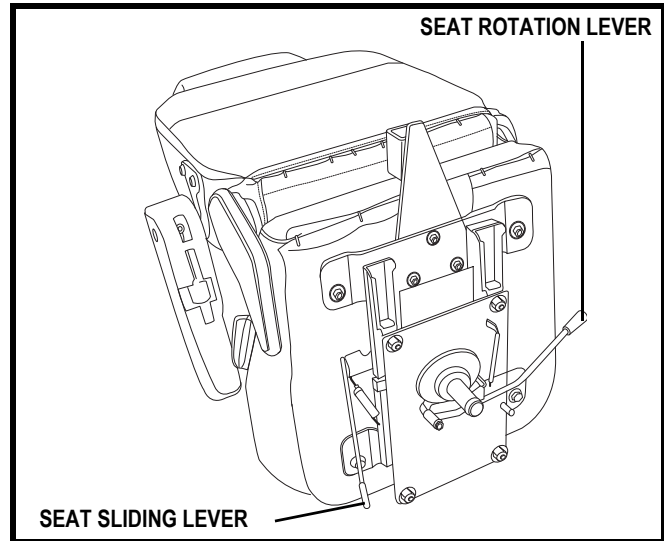

Figure 17. Seat Adjustment Levers
1. Push forward on the seat rotation lever to release the seat. See figure 17.
You can reposition the seat forward or rearward to adjust the distance between the seat and the tiller. See figure 17.